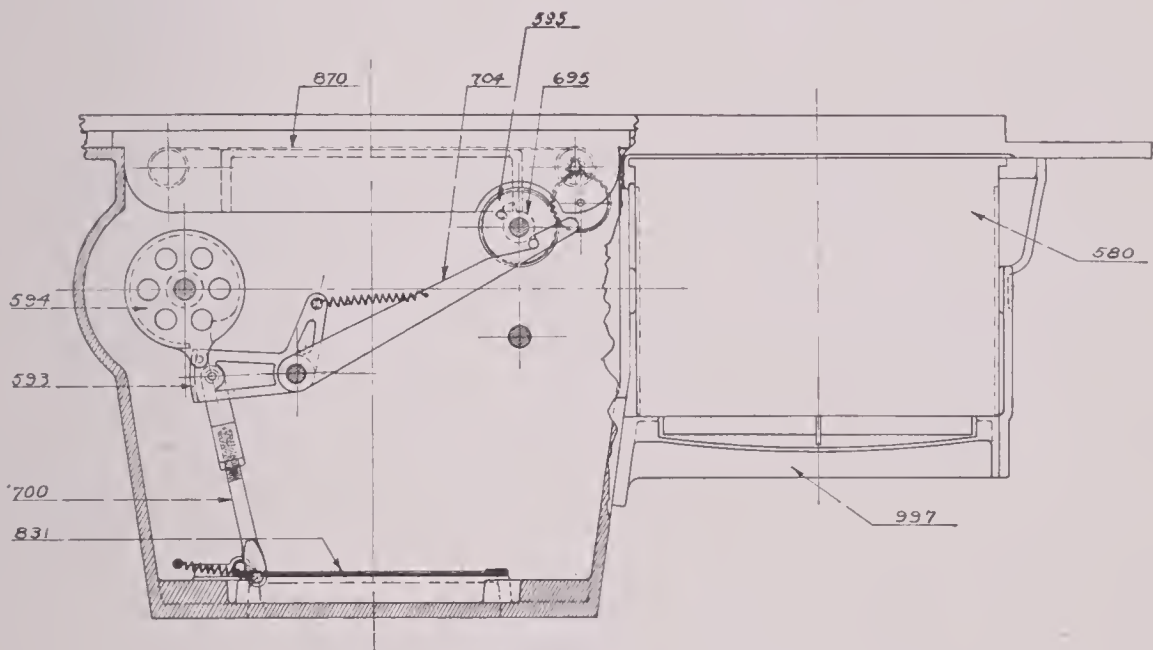

Figure 8
55. Slotted lever 589 is operated by a pin on the plunger sliding in the shutter setting lever plate. The spindle on which this slotted lever is mounted passes through the bearing in the camera body and carries a bell crank 593, shown in Fig. 8. This figure is a cross sectional drawing illustrating the focal plane shutter 870, safety shutter 831, and interlocking gear.